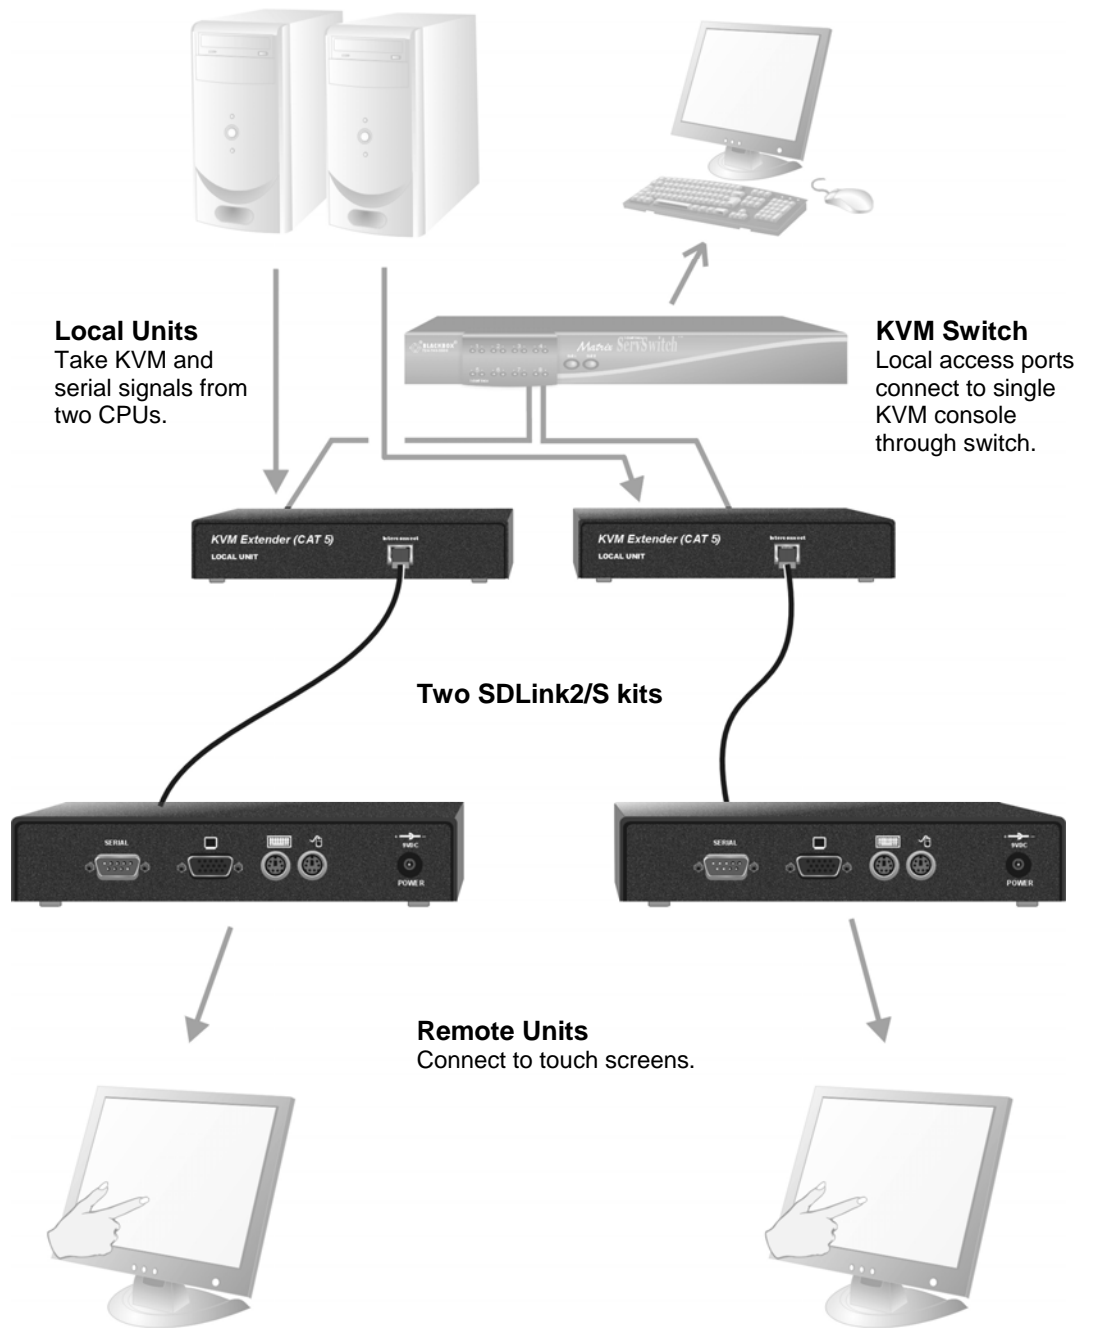

Figure 15 Touch screen network with local access to CPUs through KVM switch
- Two remote serial touch screens with local access through a KVM switch (Figure 15) using two SDLink2/S kits.